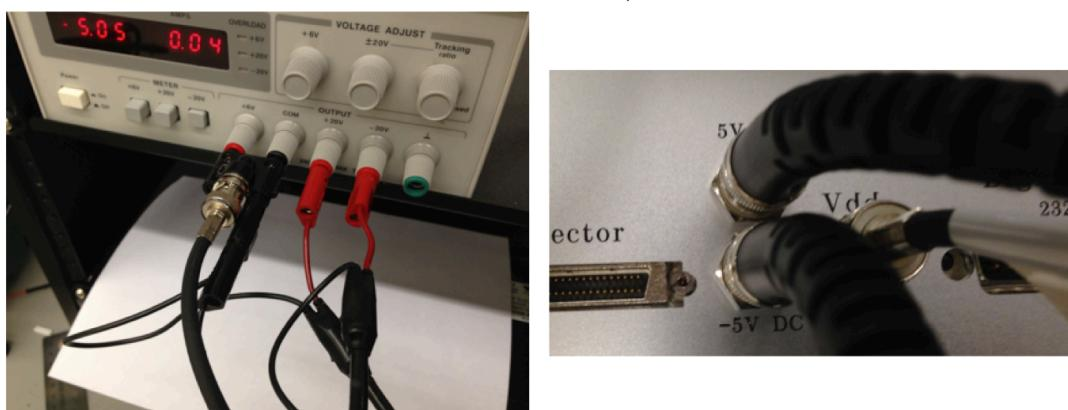

Figure 10: Agilent E3630A power supply plugged into -5V DC of WHISPER Box.
- g. An external -5V DC power supply must be connected to the -5V DC BNC plug on the backside of the WHISPER Breakout Box (Figure 10). Push the -20V meter button. Note the current draw of 0.04A, which is the nominal value.